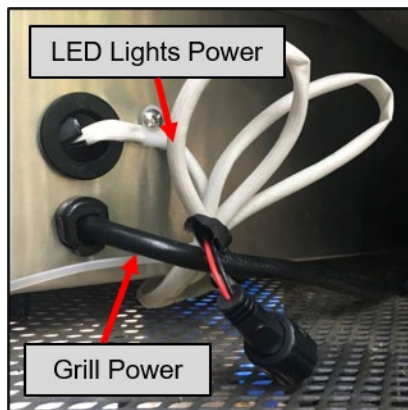

Figure 11 Electrical Cables
3. Carefully snip the zip ties around the electrical cable at the right rear corner of the grill (Figure 11); DO NOT CUT THE WIRE